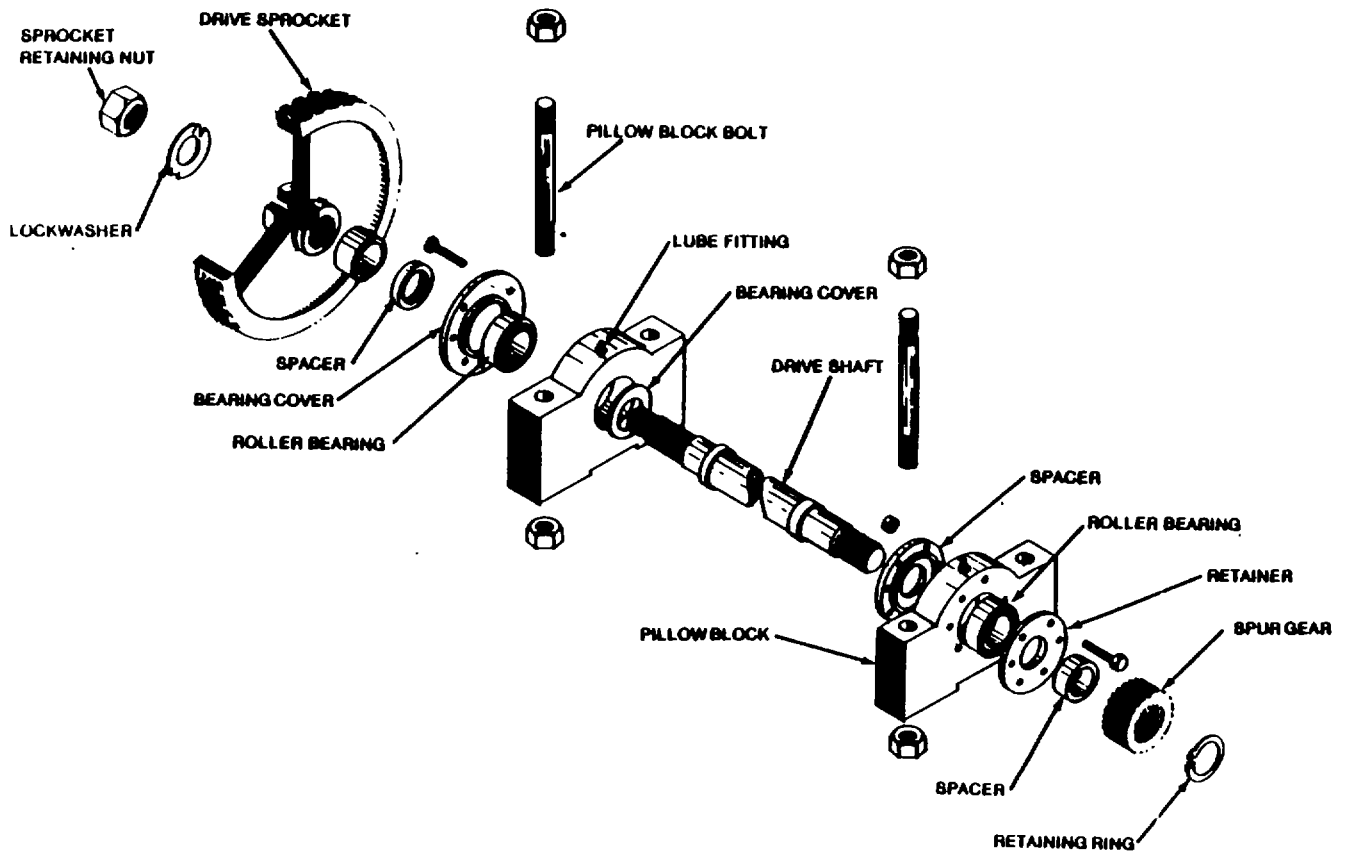

Figure 5-42. Drive Shaft Disassembly and Reassembly.
(1) Refer to Figure 5-42 and start at drive gear end of shaft. Remove six hex head screws from roller bearing retainer, and retainer.
(2) Remove lube fitting from roller bearing pillow block and pull pillow block off bearing.
(3) Use a suitable gear puller and pull roller bearing, spacer and drive gear off shaft. Remove second spacer at ball bearing shoulder of shaft.
(4) Remove bearing cover, seal and spacer from sprocket end of shaft.
(5) Pull pillow block off ball bearing. Use a suitable bearing puller and pull bearing and bearing retainer off shaft.